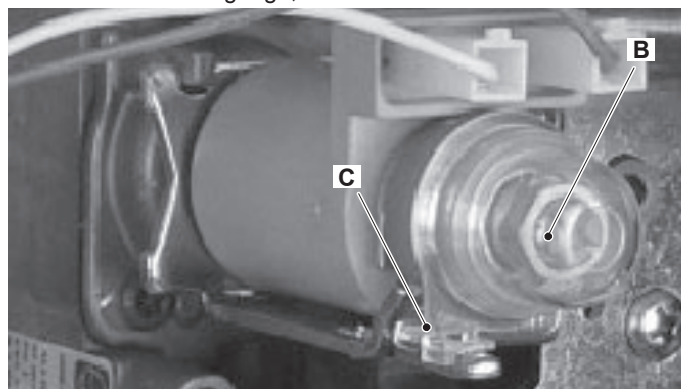

Figure 9.3
- 5 Remove the protection cap B (Figure 9.3) from the mechanical pressure adjustment components levering with a flat screwdriver in the slots C.